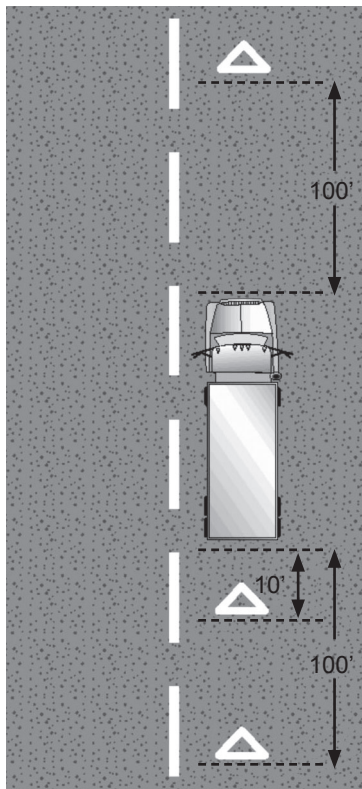

Figure 2.9
**When Parked at the Side of the Road.** When you pull off the road and stop, be sure to turn on the four-way emergency flashers. This is important at night. If you stop on a two-lane road carrying traffic in both directions or on an undivided highway, place warning devices within 10 feet of the front or rear corners to mark the location of the vehicle and 100 feet behind and ahead of the vehicle, on the shoulder or in the lane you stopped in. See Figure 2.9.